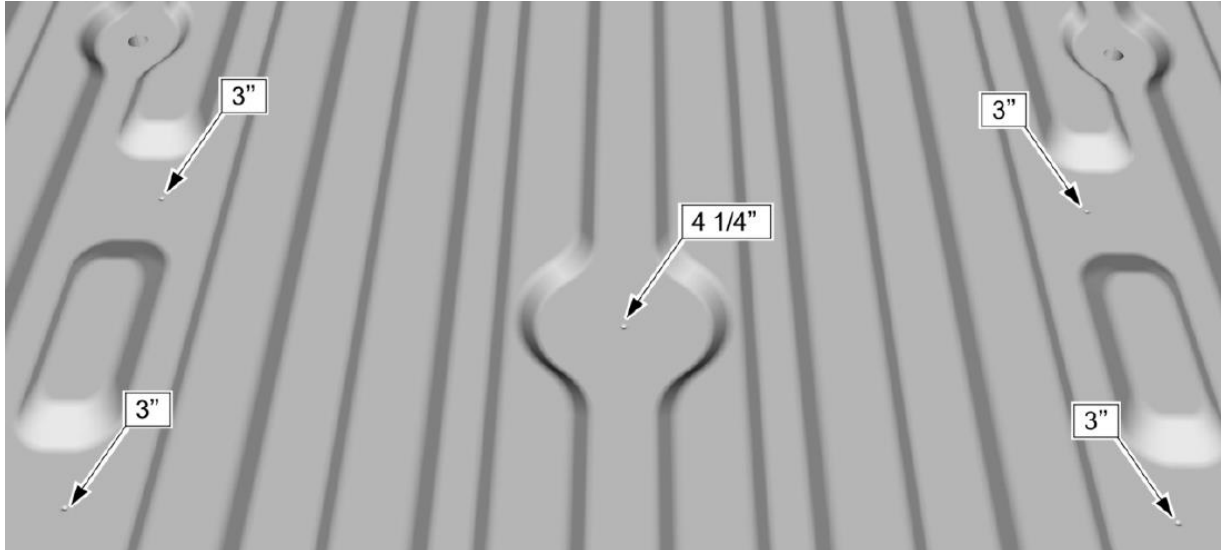

FIGURE 3
2. Using a 3" hole saw cut the 4 outer puck holes (See Figure 3).
3. Using the 4 1/4" hole saw cut the center gooseneck hole (See figure 3).